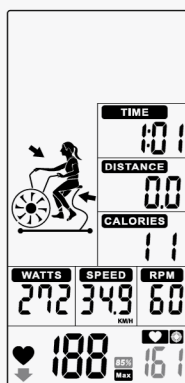

Figure 48
5. When Heart Rate exceeds to 85%, & **85%** & value will flash. And buzzer sounds in every 10s until user HR goes below 85% (Figure 48).